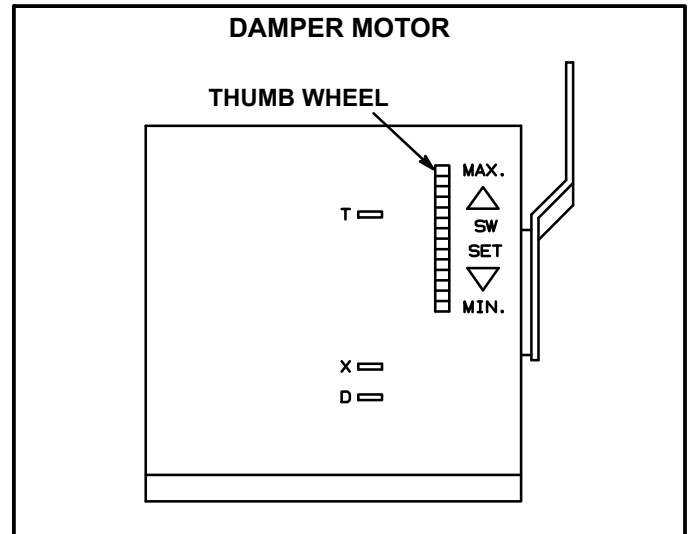

FIGURE 28
- 7- If fresh air percentage is less than desired, adjust thumb wheel higher. If fresh air percentage is more than desired, adjust thumb wheel lower. Repeat steps until calculation reads desired fresh air percentage. See figure 28.
Set damper minimum position in the same manner as economizer minimum position. Adjust motorized damper position using the thumb wheel on the damper motor. See figure 28. Manual damper fresh air intake percentage can be determined in the same manner.